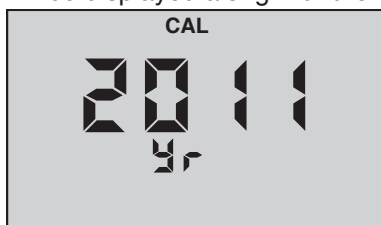

Figure 13
3. Press  to initiate. “**CAL**” will be displayed along with the YEAR (see Figure 13).